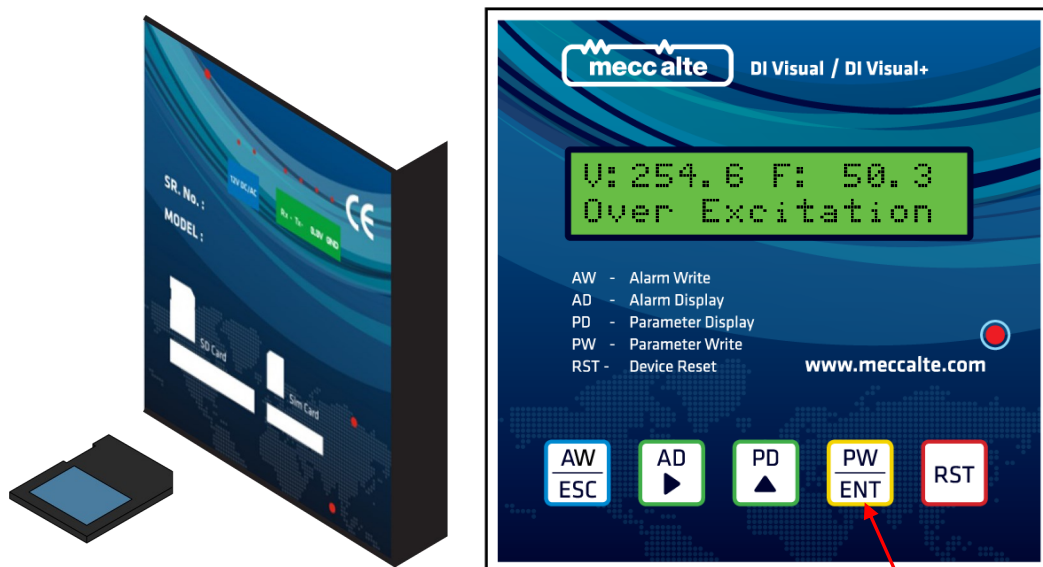

fig. 21
- 1) To backup the stored Address and parameter values on DSR to SD card first insert the SD card on back side of device as indicated by a SD card picture in Fig 21.